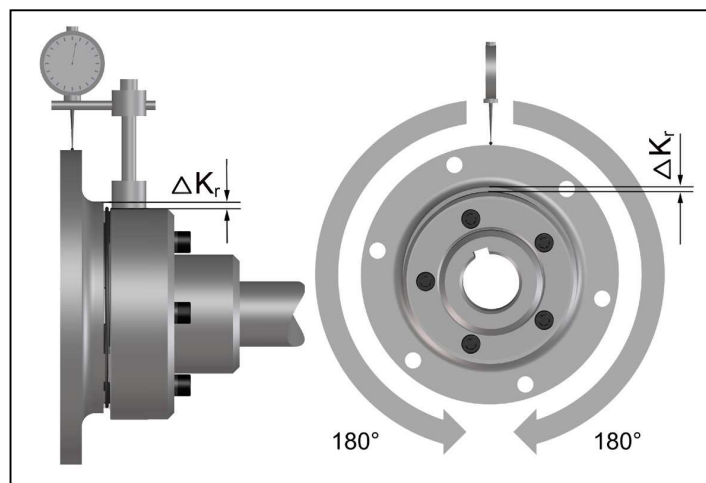

Fig. 8
- Measure one complete revolution (360°) on the face of the outer diameter. Determine the largest deviation ΔK_{r1} and the smallest deviation ΔK_{r2} (Fig. 8).